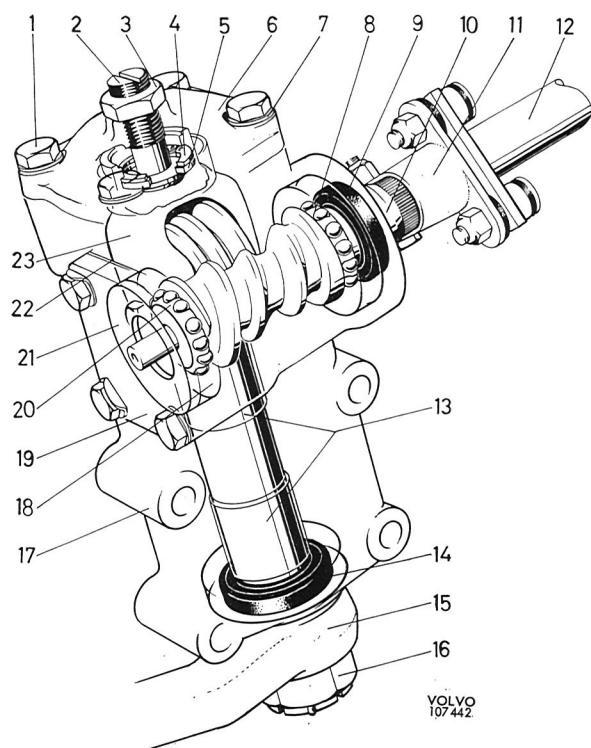

Fig. 6-41. Manual steering gear
The steering gear is of the "worm and roller" type and its construction is shown in Fig. 6-41. It has a ratio of 17.5:1. The worm (10) is journaled in two ball bearings (8 and 20) and it is tensioned by shims (22). The pitman arm shaft (sector shaft) is journaled in two bushings (13) and its roller in two needle bearings. Since the roller mesh in the steering worm is determined by the axial position of the pitman arm shaft, the adjusting screw (2) regulates the steering gear clearance. The steering gear is lubricated with hypoid oil.